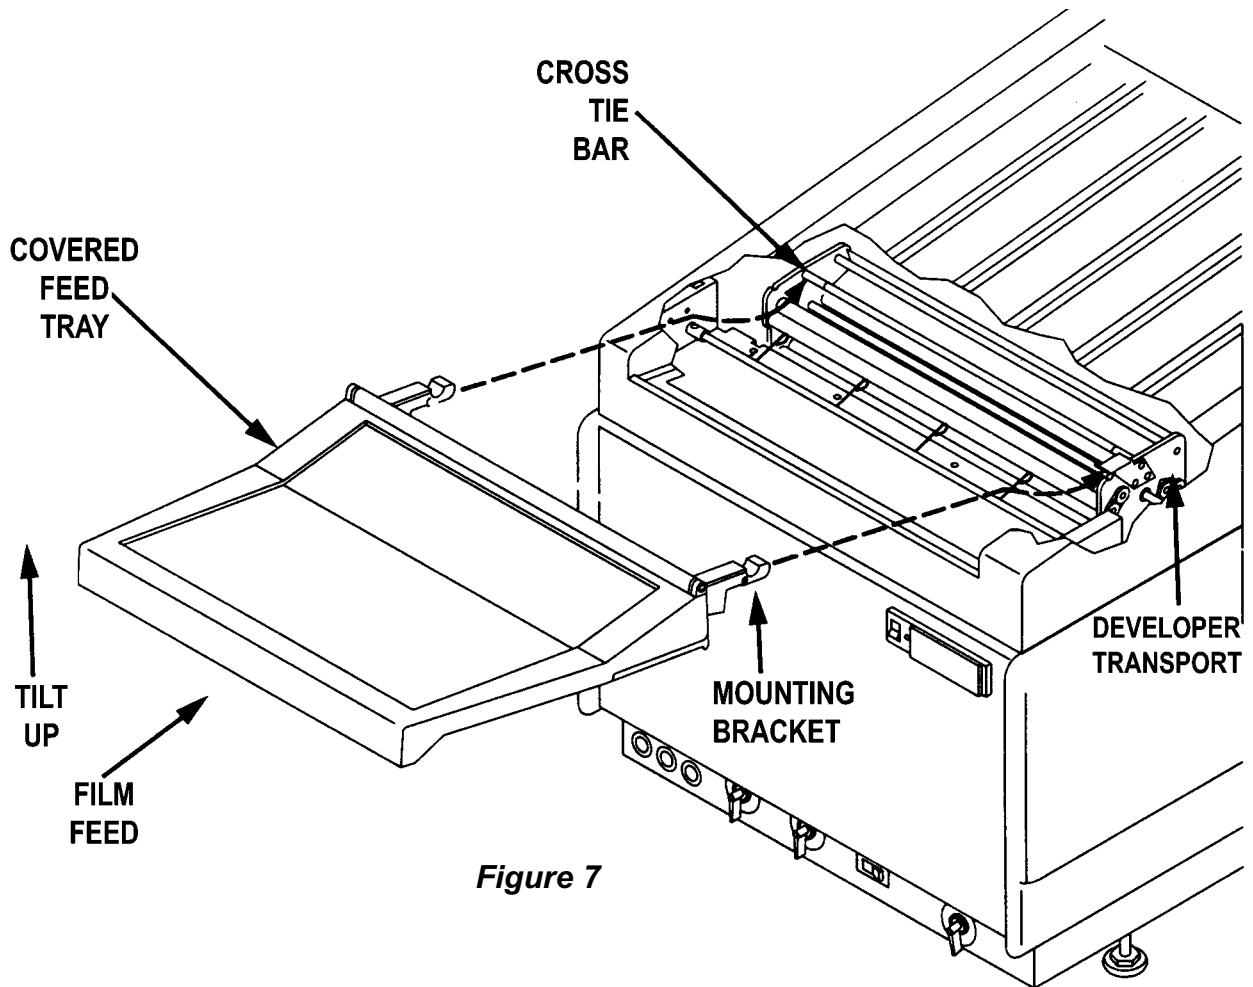

Figure 7
2. Install the film feed tray (See Figure 7):